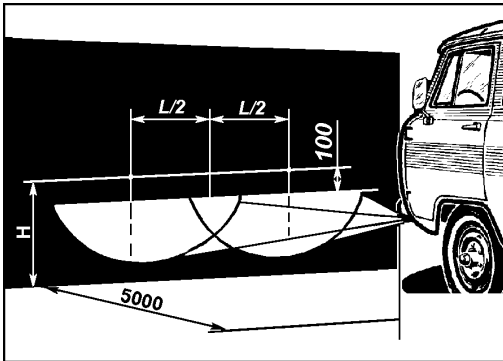

Fig. 67. Aiming screen for fog headlamp adjustment:
**Adjust the fog lamps** that the area of concentrated light on the aiming screen or the wall is located as indicated in Fig. 67. For replacing the fog lamp bulb, remove the cover of the bulb holder by turning it counterclockwise and take out the bulb.